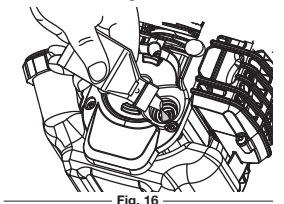

Fig. 16
4. Pour the entire bottle of oil into the oil fill hole (Fig. 16).